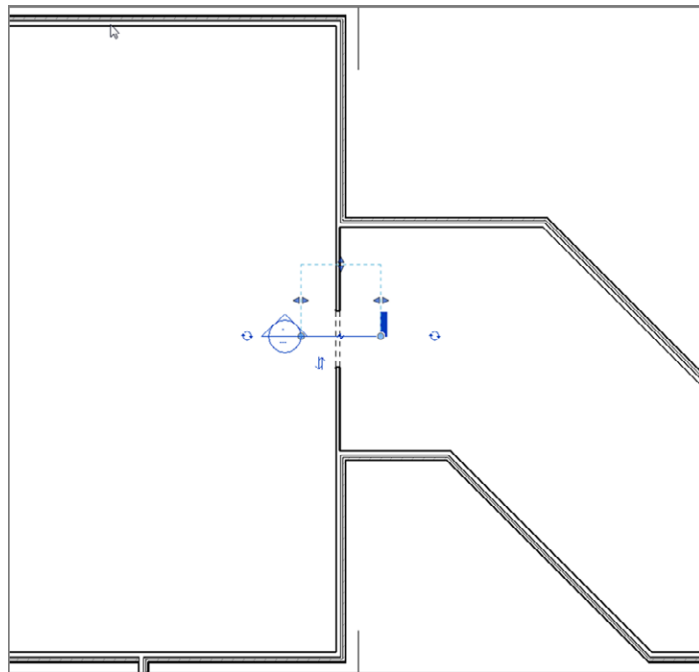

FIGURE 3.54: The wall section in the plan
4. Add the section through the corridor wall that was modified in the previous section of this chapter, as shown in Figure 3.54.